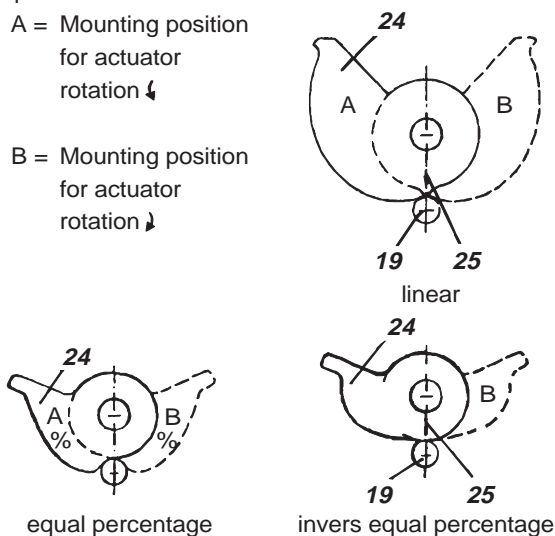
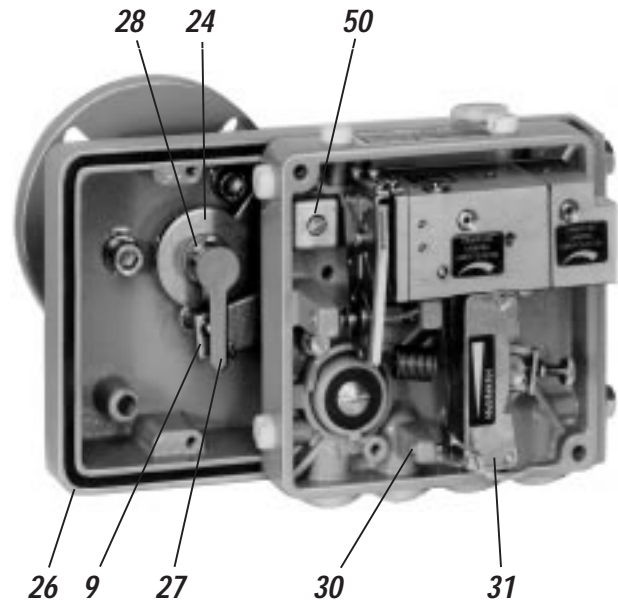

Fig. 20: Mounting position of the cams
Fig. 25: Attachment kit for rotary movement and positioner
- d) Mount the cam 24 in accordance with the direction of rotation of the actuator (see Fig. 20).
Screw the positioner to the housing of the attachment kit (see Fig. 25). With the linear cam and the inverse equal percentage cam check whether the mark **25** points to the centre of the cam follower **19** (see Fig. 20); adjust if necessary.